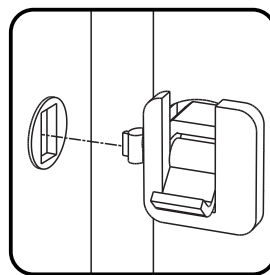

Figure 2
Attach Back Rail (G) to Side Panel (C), then flip Locks. (See Figures 2 and 3)